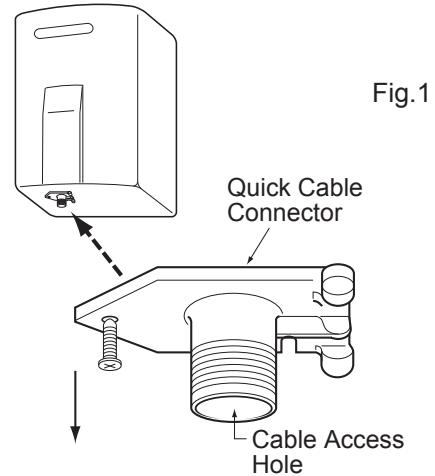

Fig.1
- 8) Remove a screw on the Quick Cable Connector. (Fig1)